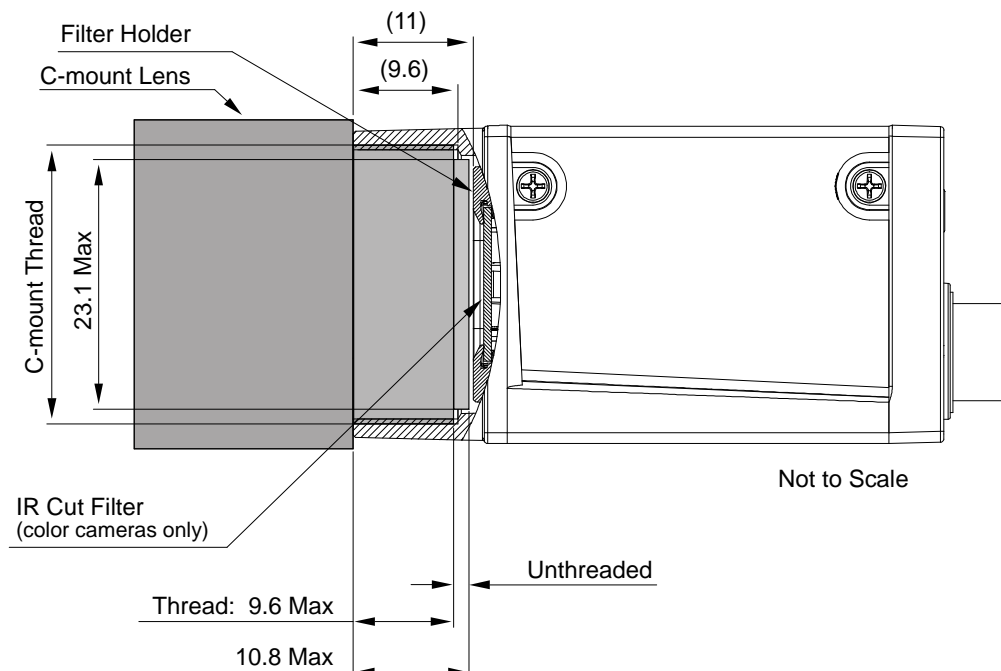

Fig. 22: Maximum Lens Thread Length (Dimensions in mm) for Cameras with the C-mount Lens Adapter
- Camera with C-mount lens adapter (see Figure 22):